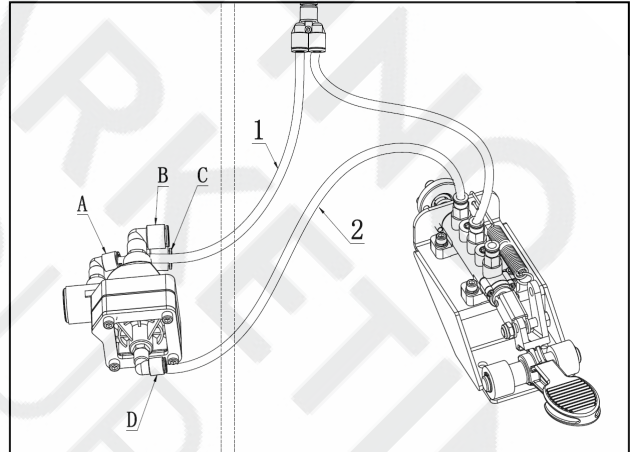

FIG5
- The exhaust valve (FIG3-25) under air tank needs connect 4 hoses. Two 12mm hoses of them insert the connectors FIG5-B and FIG5-C randomly. The other two 8mm hoses insert the connectors FIG5-A and FIG5-D.